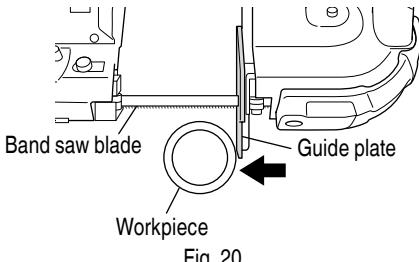

Fig. 20
- (4) Press the workpiece against the guide plate (Fig. 20)